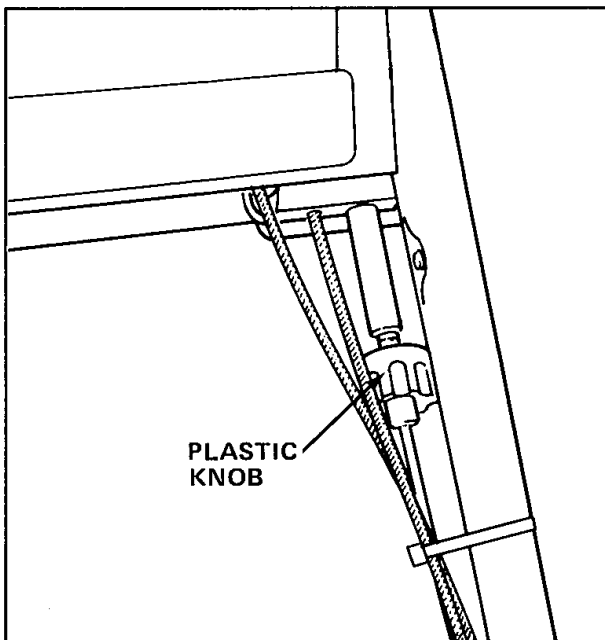

Figure 19
3. Turn plastic knob under left hand side of control panel (Fig. 19) in positive (+) direction to increase the distance between the control bar and handle. Turn plastic knob in negative direction (-) to decrease the distance between the control bar and handle.